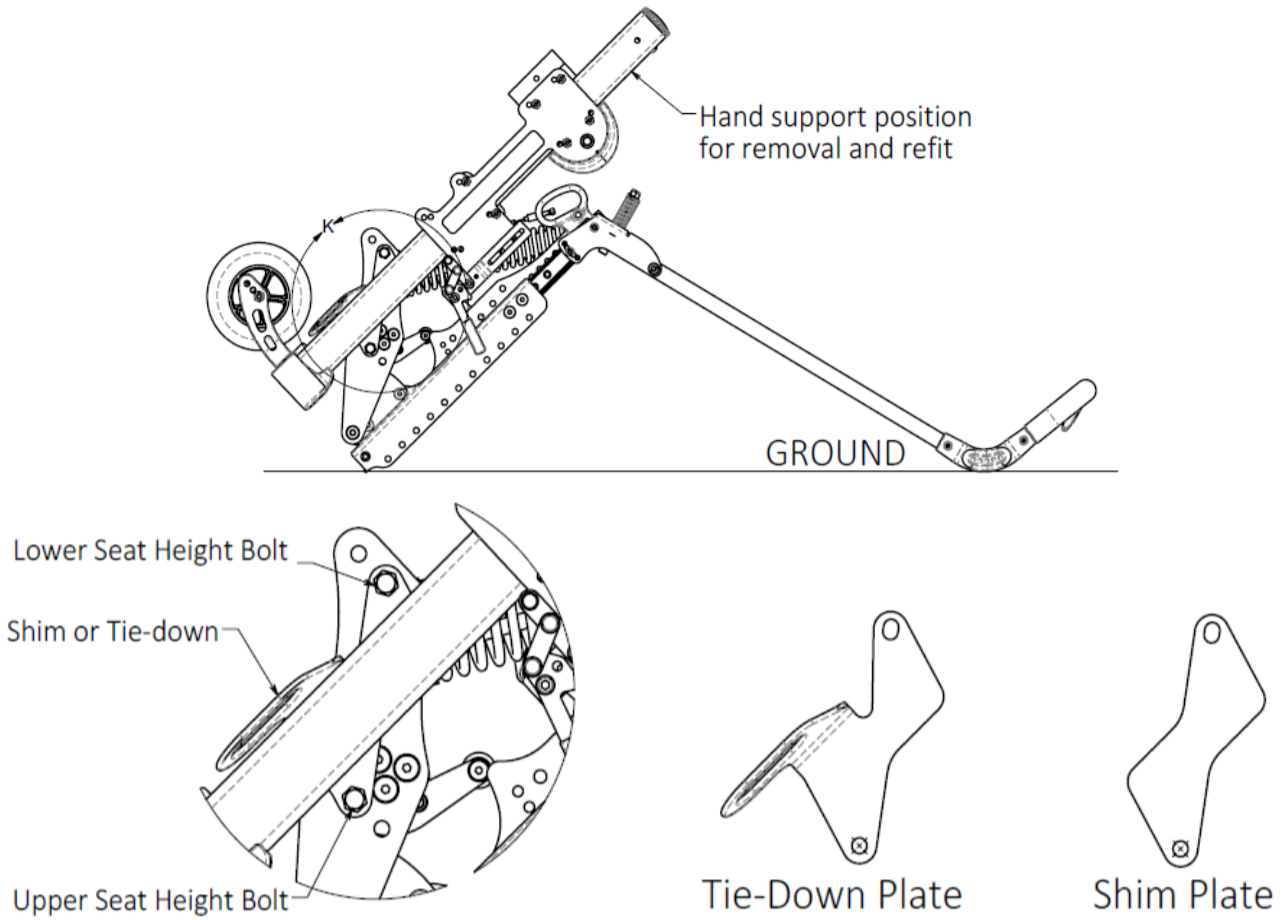

Figure 14.6: Recommended chair position
1. Remove the wheels, front rigging, and arms from the chair. Tip it forward so that it is resting on the back post and front rigging receivers as shown in Figure 14.6.